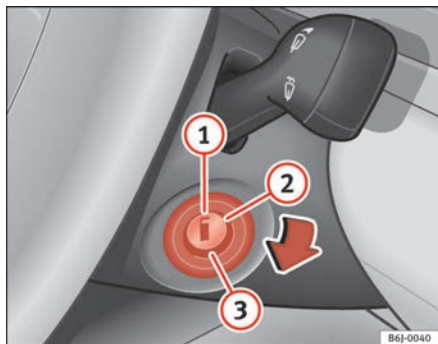

Fig. 95 Ignition key positions
In this position ⇒ fig. 95 the ignition and the engine are OFF and the steering may be locked.
- Turn the ignition key to position $\Rightarrow$ page 131, fig. 95 ②. The indication lamp ∞ will light for engine pre-heating.
- When the warning lamp turns off, turn the key to position ③ to start the engine. Do not press the accelerator.
- Turn the ignition key to position $\Rightarrow$ page 131, fig. 95 ①. ▶